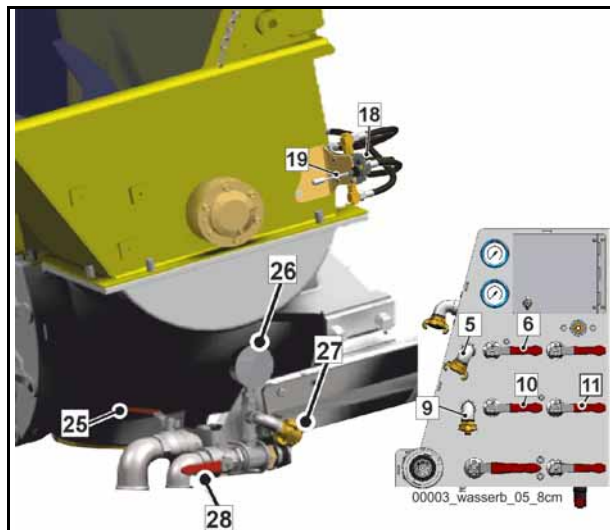

Fig. 242 Flushing the water box
- Open the drain cock (1) (**Fig. 242**) on the water box at the rear of the machine.
- Start the water pump and route pressurised water into the spraying nozzles (3) of the water box by switching the corresponding ball valves (2) at the rear of the machine